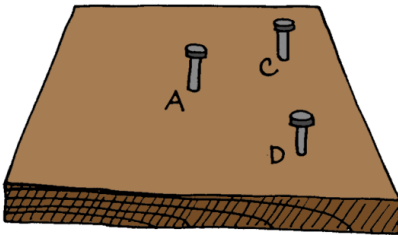
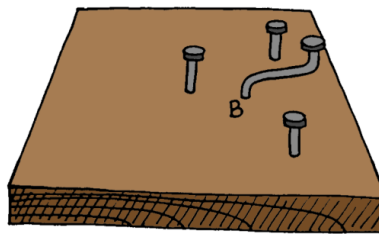
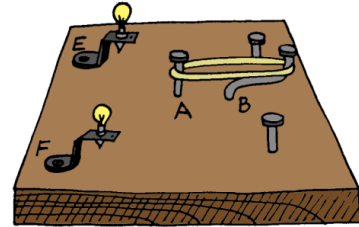

Figure 3
Figure 4
Figure 5
6. Pound the 1" nails $\frac{1}{2}$ " into the board at points A, C and D (*Figure 3*). Use the 3" nail to make a hole $\frac{1}{2}$ " deep at point B. Put the crank nail in this hole and pound it in a little farther (*Figure 4*). Attach the lamp socket brackets at points E and F. Insert the 1.5 volt bulbs into the sockets. Stretch the rubber band as shown in *Figure 5*.